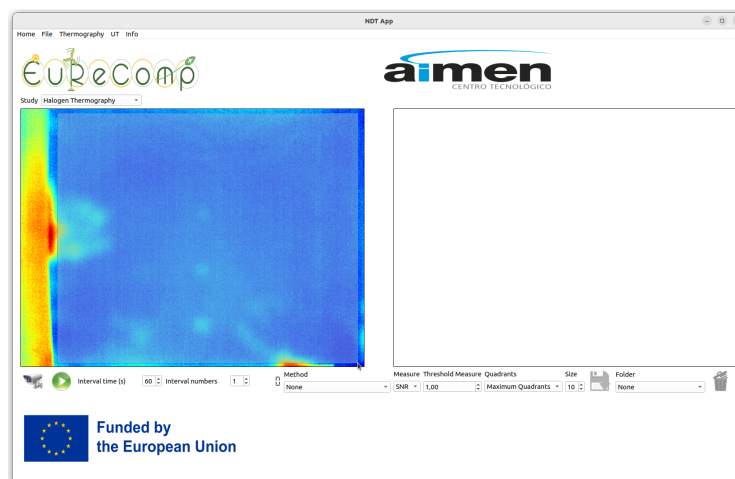

Figure 3: RoI selected on left screen.
2. **Left Screen:** On this screen the thermographic video is shown. The Region of Interest (RoI) can be selected by keeping the left mouse button pressed until the target area is selected, as shown in Figure 3.